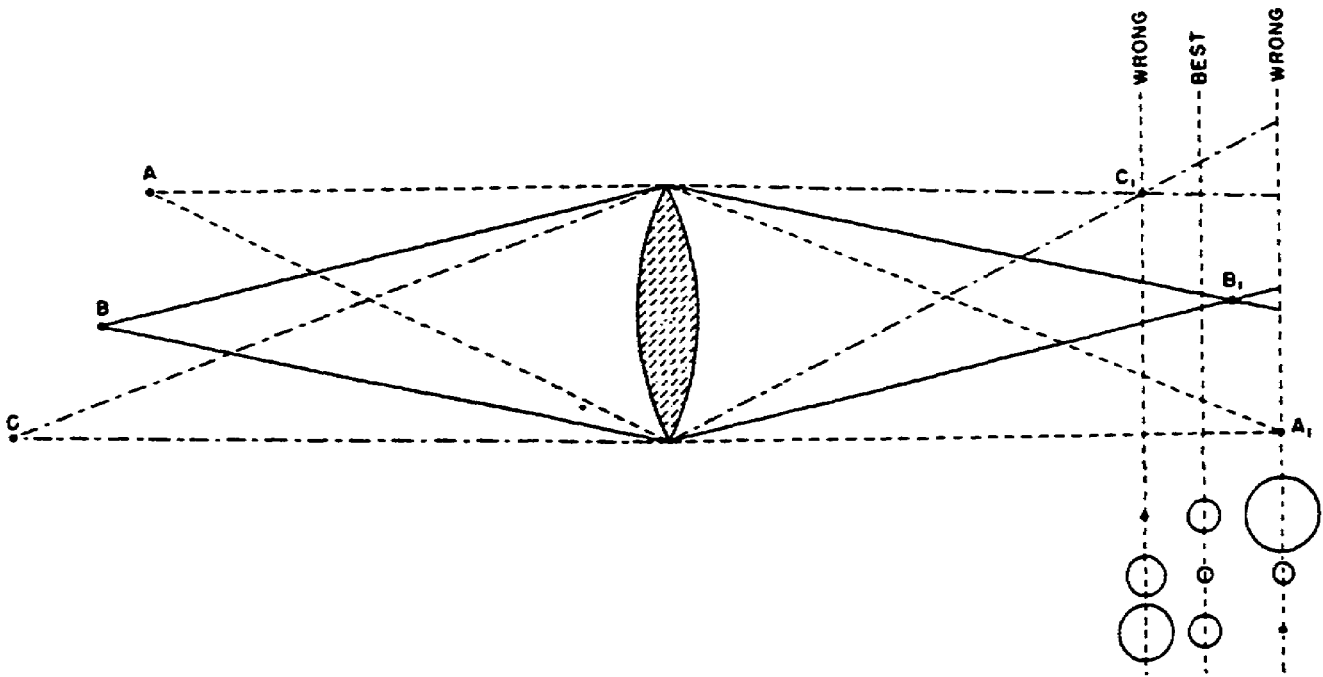

Figure 2-26. Focusing one-third of the distance.
2-18. FOCUSING LENS ON SEVERAL OBJECTS. When you are focusing a lens on several objects that are at different distances from the lens, you must effect a compromise. You usually obtain the best results by focusing on a point one-third ($1/3$) of the distance between the nearest (C) and farthest (A) point of focus, (fig 2-26).